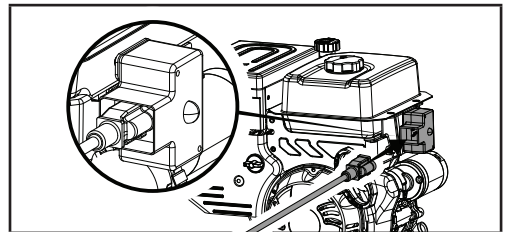

Figure 9D
7. Alternatively for electric start, plug in the supplied electrical cord into the starter. Press the electric start button and make sure that the main supply voltage is 120 V~ 60 Hz (Fig. 9D).